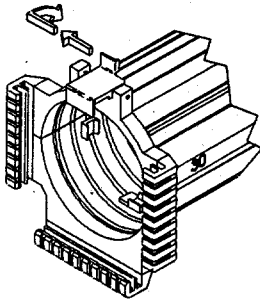

Figure 3
■ ACCESSORY RETAINING LATCH Figure 3